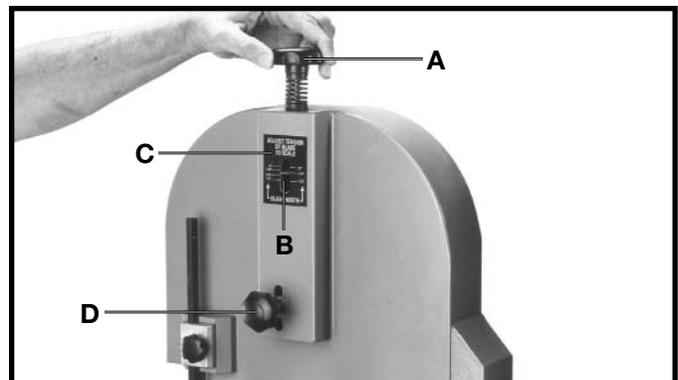

Fig. 17
With the saw blade centered on the two band saw wheels, slightly loosen wing nut located behind knob (D) Fig. 17. Turn the tension knob (A) Fig. 17, clockwise to increase blade tension or counter-clockwise to decrease blade tension until the indicator (B) lines up with the corresponding blade width on scale (C). Tighten wing nut located behind knob (D). **NOTE:** The scale is correct for average work, and is not affected by use of re-brazed saw blades. We urge you to use the scale until you have become familiar enough with the operation of the band saw to vary the tension a little for different kinds of blades or work. Over-tensioning is a common cause of blade breakage and unsatisfactory blade performance. When the band saw is not in use, it is good practice to release tension to prolong the life of the blade.